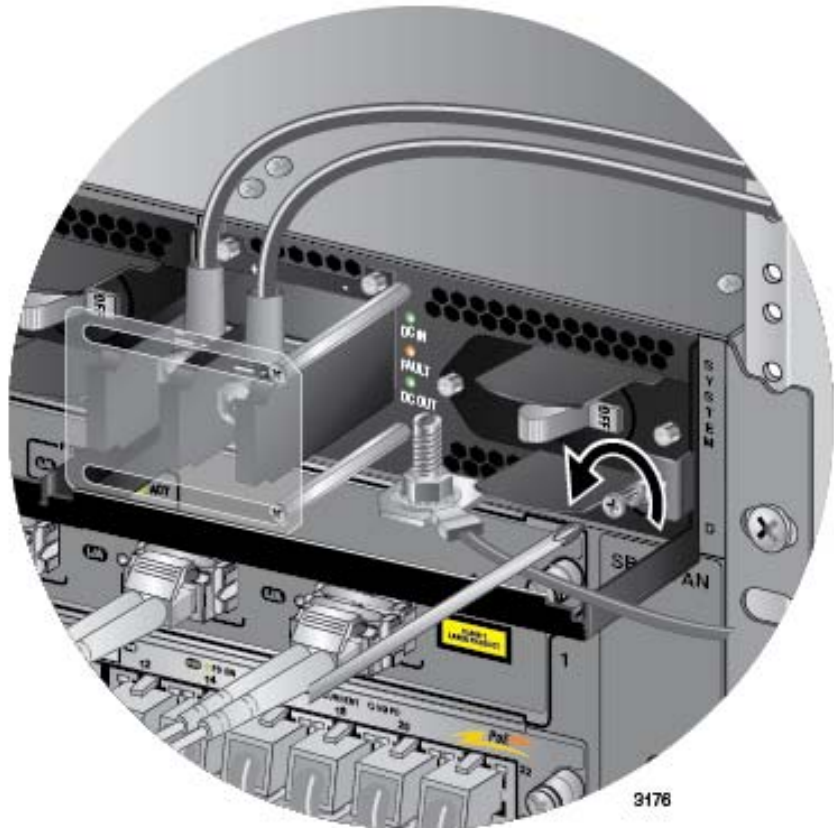

Figure 172. Loosening the Screw on the Locking Handle
3. Use a #2 screwdriver to loosen the screw on the locking handle. Refer to Figure 172 on page 295.